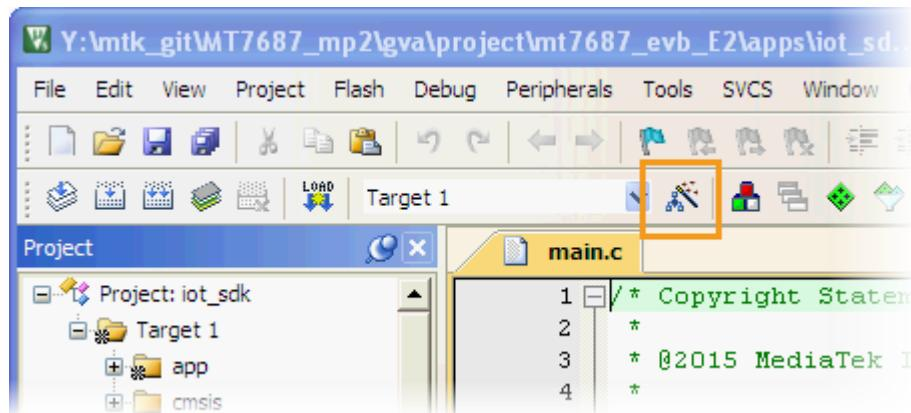

Figure 46. Set download configuration on µVision IDE
- 3) Click **Options for Target** or navigate to **Project**, then **Options for ...** and select **Target** on the main menu of the IDE (see Figure 46).
- 1) Click **Options for Target** or navigate to **Project**, then **Options for ...** and select **Target** on the main menu of μVision IDE, as shown in Figure 46.
- 5) Click **Options for Target** or navigate to **Project**, then **Options for ...** and select **Target** on the main menu of, as shown in Figure 46.